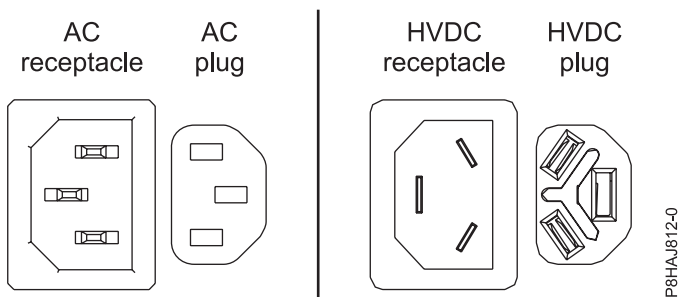
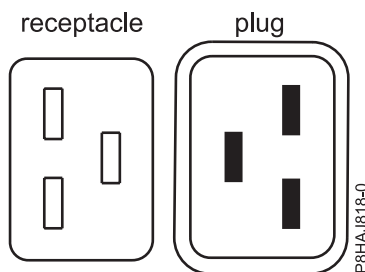
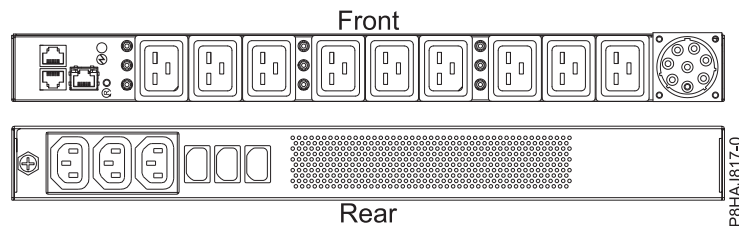

Figure 46. AC and HVDC connectors
Figure 47. Connectors for the 8408-44E system
Figure 48. PDU for the 8408-44E system
- The power cord is fastened to the system using the hook-and-loop fastener (A). If you are placing the system in a service position after disconnecting the power cords, then ensure that you unstrap the fastener.
Figure 46 shows the supported alternate current (AC) and high voltage direct current (HVDC) connectors. Figure 47 and Figure 48 show the supported connectors and power distribution unit (PDU) for 8408-44E.